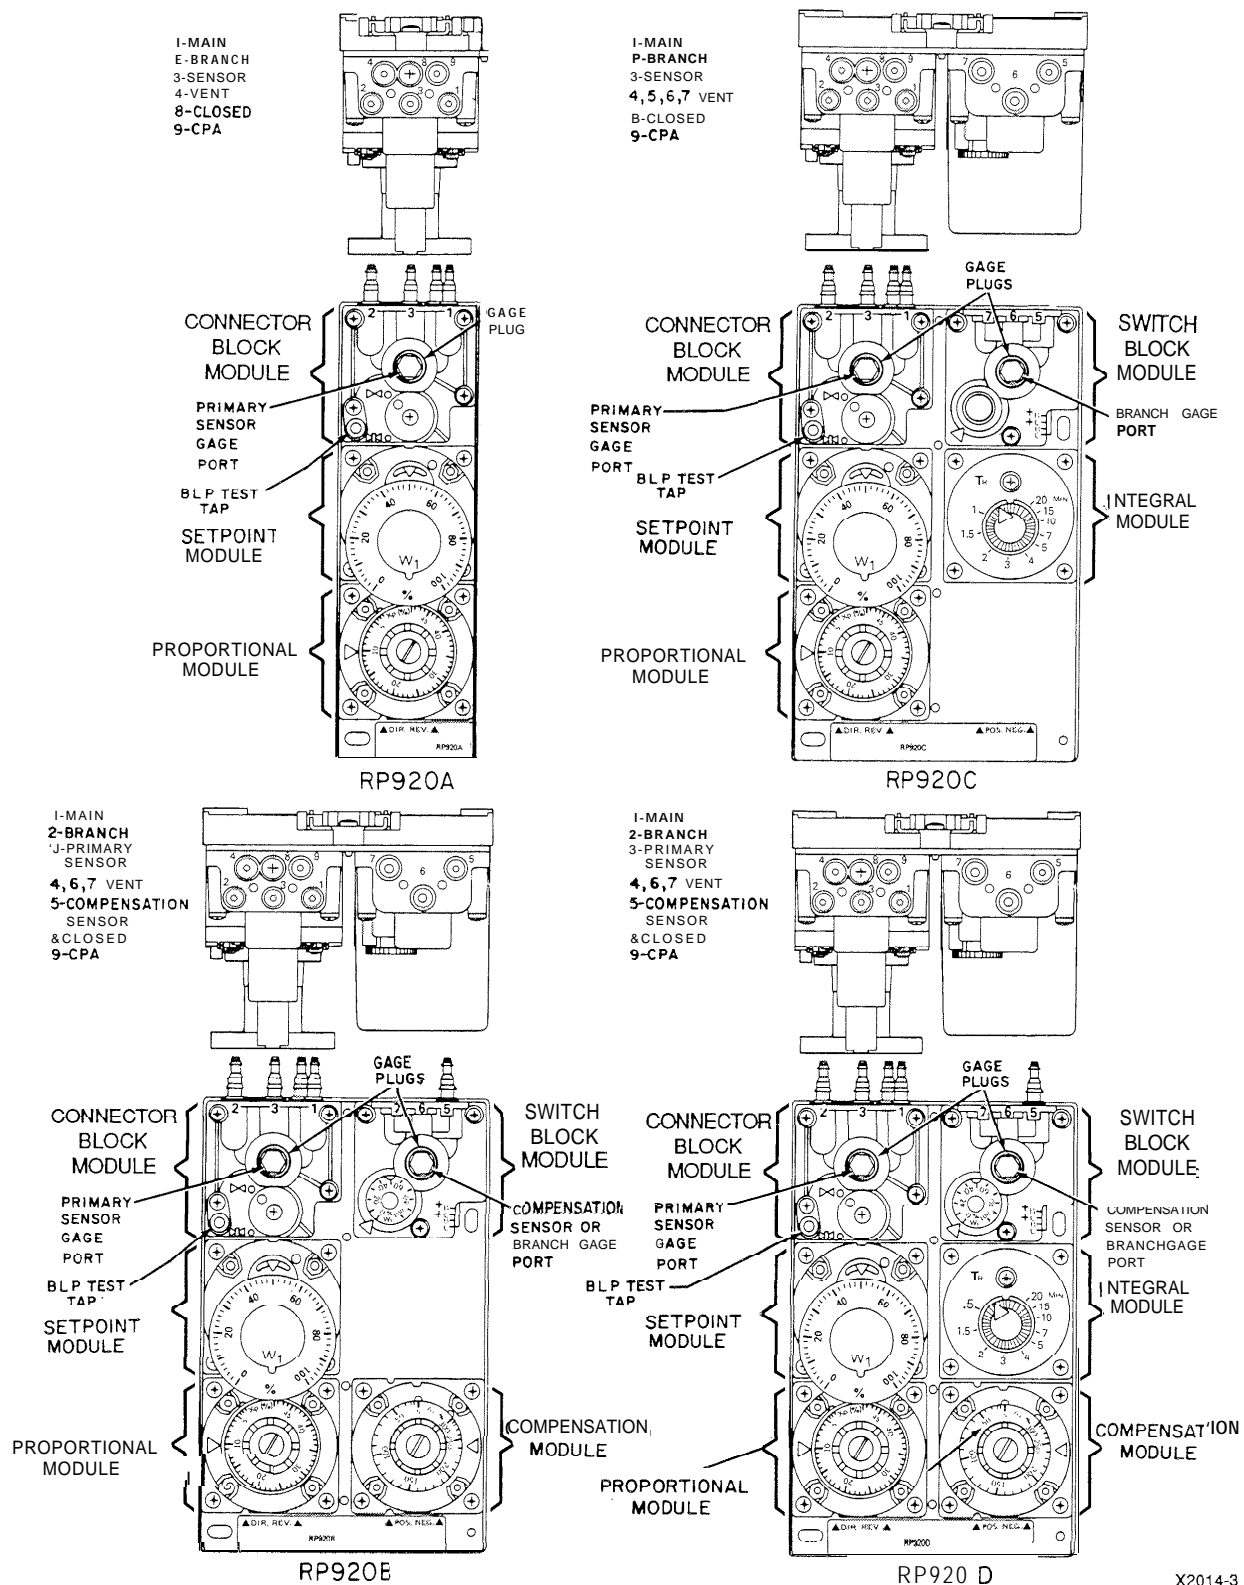

Fig. 13. Module and Port Locations.
1. Some adjustments on the RP920 Modular Pneumatic Controllers require removal of modules. Module and port locations are shown in Figures 13 and 14.